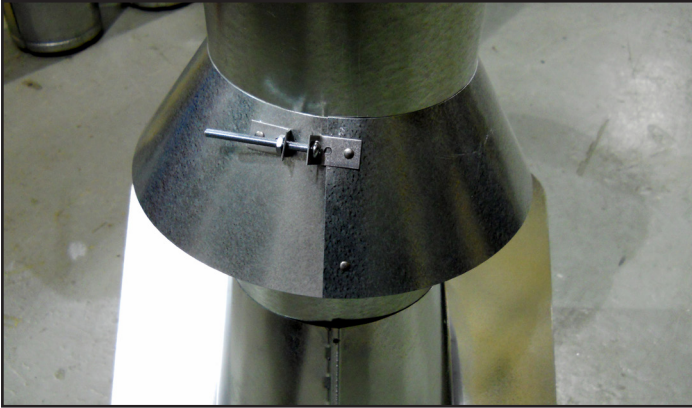

Figure 7.14 - Insert Bolt into Brackets
- Slide the assembled storm collar down the pipe section until it rests on the roof flashing, Figure 7.14.